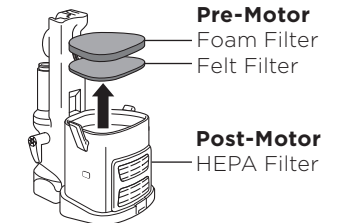

Fig. 16
- 2 Pull the 2 filters out from the top of the motor base. (Fig. 16)